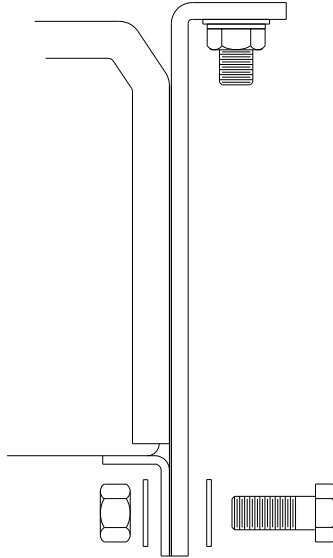

Figure 2-6: Bolt Mounting Bracket to Unit
1. Locate the mounting studs on the bottom of the Compact Outdoor SSPA unit. Using a ½” **bolt**, two **flat washers**, and a ½” **nut**, firmly bolt one **mounting bracket** to each mounting stud, as shown in **Figure 2-6**. Be sure each bracket is vertical, and the top flange of the mounting bracket points away from the unit.